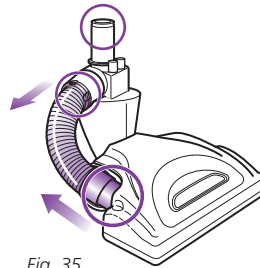

Fig. 35
- Detach the hose on the motorized floor brush at the top by squeezing the tabs together and pulling out, and at the bottom by pulling out the connector. Inspect inside the 3 holes. (Fig. 35)